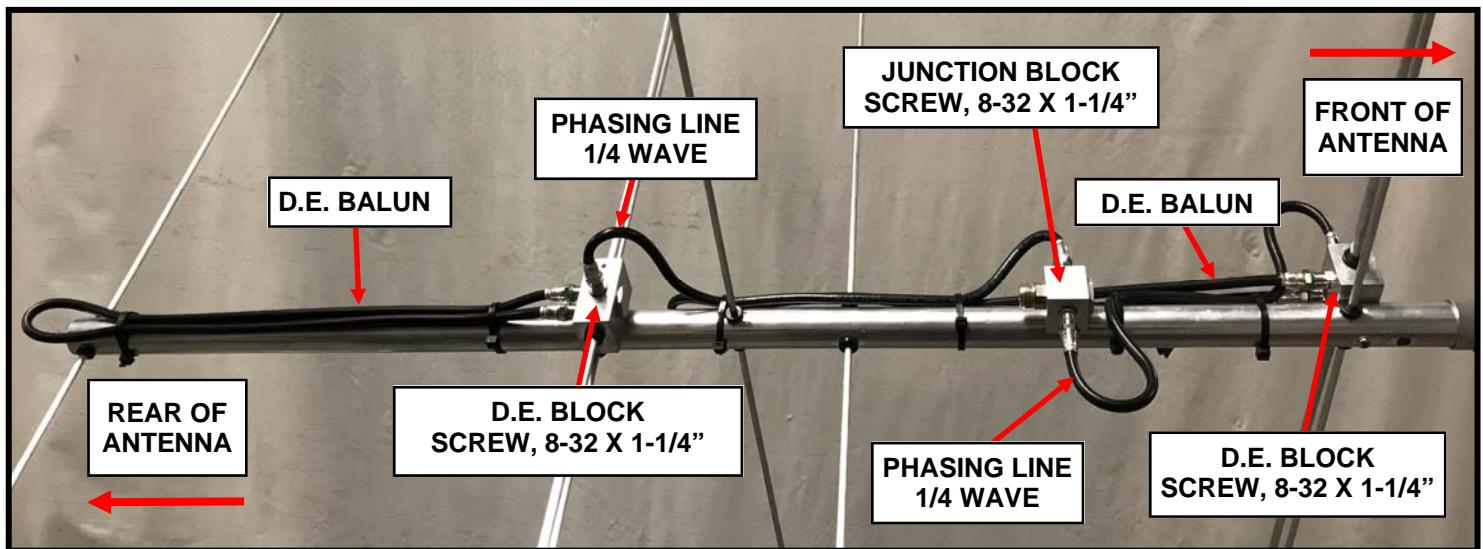

FIG 2.
6. Mount the **HORIZONTAL** DRIVEN ELEMENT BLOCK / ROD ASSEMBLY to the **TOP** of the boom using a single 8-32 X 1-1/4" screw. See FIG 2. for reference. Install the 8-32 x 1/4" set screws (internal Allen head - tool supplied) into the SHORTING BARS. Slide the bars onto the Driven Element Block Rods and the driven element rods. Position the Shorting Bars at the ends of the 3/16" rod that passes through the boom. Align the bars with each other and tighten the set screws.
7. Mount the "T" JUNCTION BLOCK on the top of the boom. See FIG 2. for hole location. Secure with a 8-32 X 1-1/4" screw.
10. Attach Baluns and Phasing lines to the Driven Element Blocks and Junction Block as shown on FIG. 2. Tighten the connectors ***gently*** using a 7/16" end wrench. A lot of torque is unnecessary. Depending on model and polarity, the Vertical balun may loop around another element. This is normal. Form balun and phasing line coax close to the boom and secure with nylon cable ties. Ties should be snug but not crushing or kinking the coax.